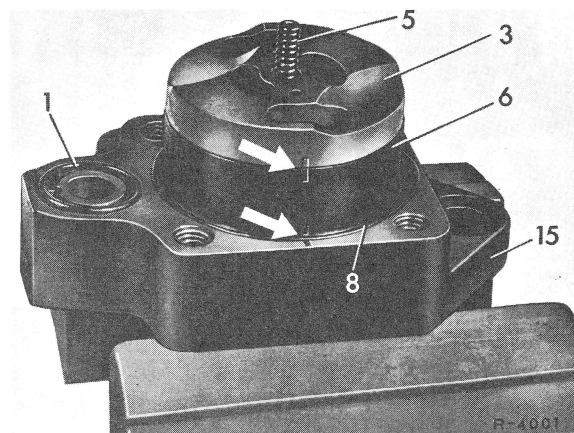

Fig. 3
3 Remove compression spring (5) from pressure plate (3). **Mark pressure plate (3), cam ring (6) and housing cover (15) together** (refer to arrows in Fig. 3).